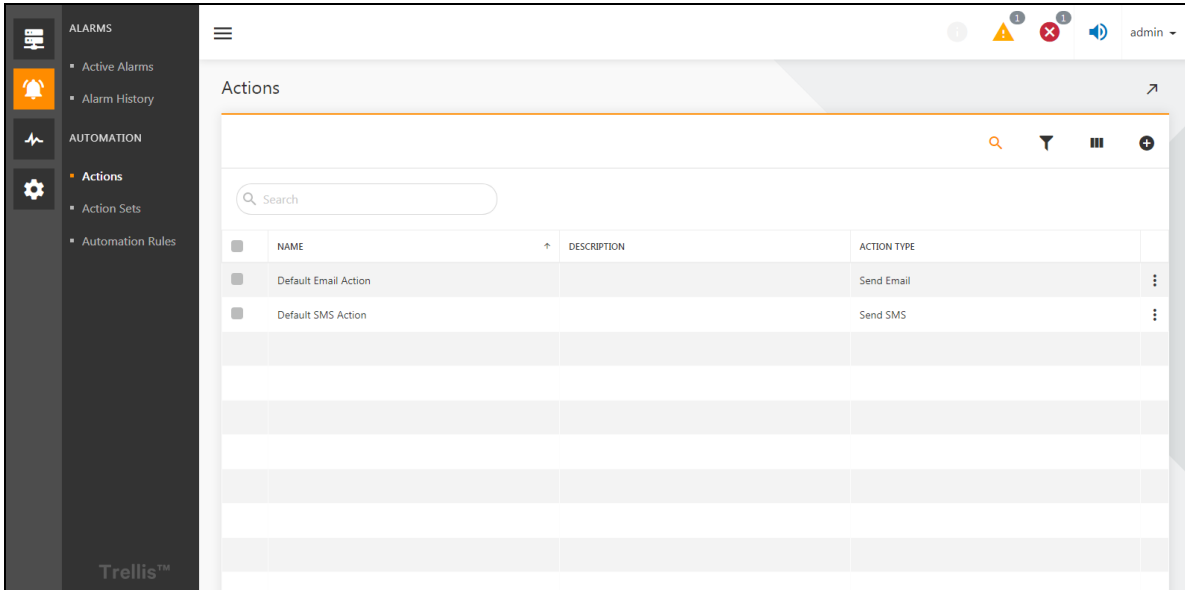

Figure 7.16
1. Click on bell icon  , then click on the Actions menu to enter the actions page, as shown in **Figure 7.16** below . The system creates the default email notification action and the default SMS notification action by default. Click the button  on the right to select edit, delete, and copy existing actions. Action role: The action that the system needs to perform when an alarm is triggered.